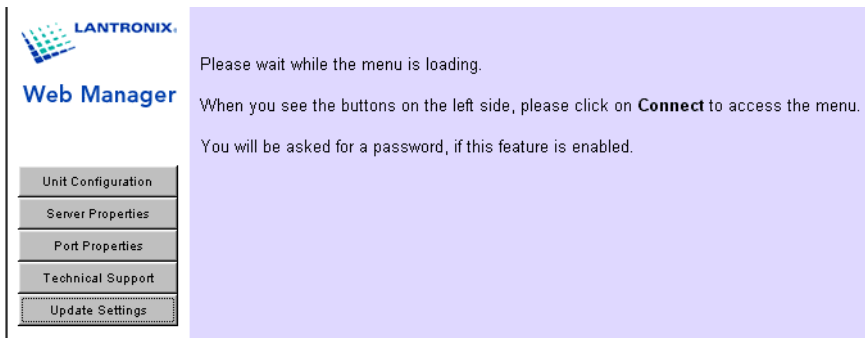

Figure 32: Web Browser Main Menu Screen
2. Click on the  button. When communication has been completely established the configuration option buttons become active (see Figure 32 on page 25).